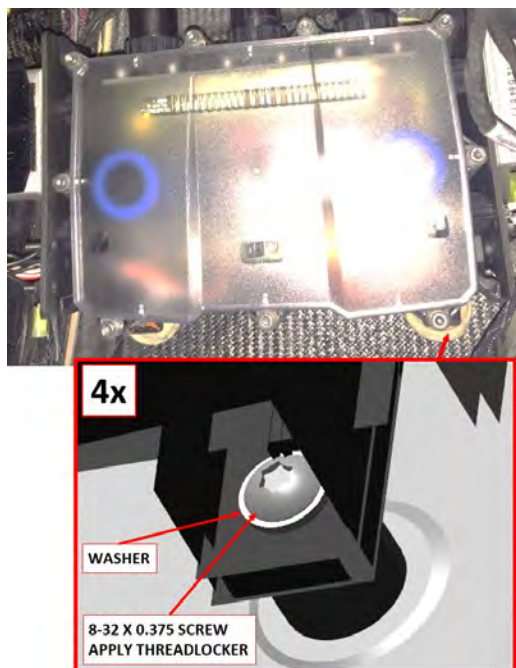

FIGURE 17-57
4. Secure the fuse box cover with nine M4x16 Allen screws (10) and plastic washers (11).
- For Regulator A, use one M4 lock nuts (16) and washer (17) to secure two black ground wires (7) on one ground stud.
- For Regulator B, use two M4 lock nuts (16) and two washers (17) to temporarily secure two black ground wires (7) on separate ground studs. Additional wires will be added in subsequent steps.
6. Secure the regulator to the fuse box with two M6 lock nuts (12) and washers (13).
8. Secure the fuse box to the fuselage with four 8-32 x 0.375 screws and washers previously removed. Apply THREADLOCKER to screw threads. Torque to 7-9 in-lb. See Figure 17-57.